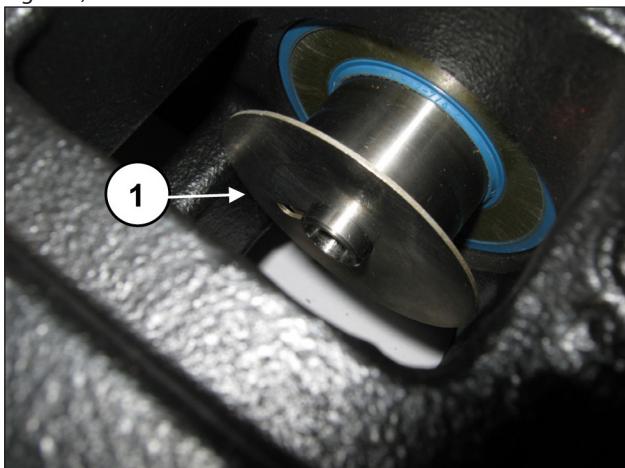

Fig. 156
Position the spray-guard in the piston guide housing (pos. ①, Fig. 156).